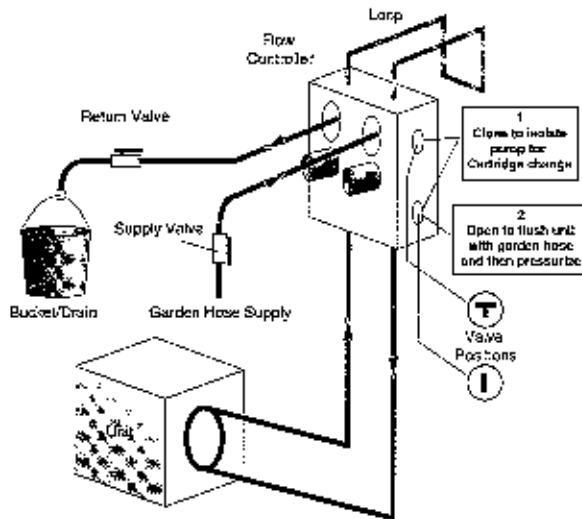

Figure 10 - Cartridge Replacement Procedure
First isolate the pump in question as in Figure 10. Always **disable power to the pumps** and remove pump power wiring if needed. Close valves as in Step 1 of Figure 10.
- Place garden hose supply and return on flush ports as shown in Figure 10 and open valves to flush through the unit portion of loop. When water flows clear, close return side to pressurize and finally close the supply side valve. Finally close 3-way valves to operation position Figure 9E. The loop can also be refushed using the complete procedure outlined for installation.